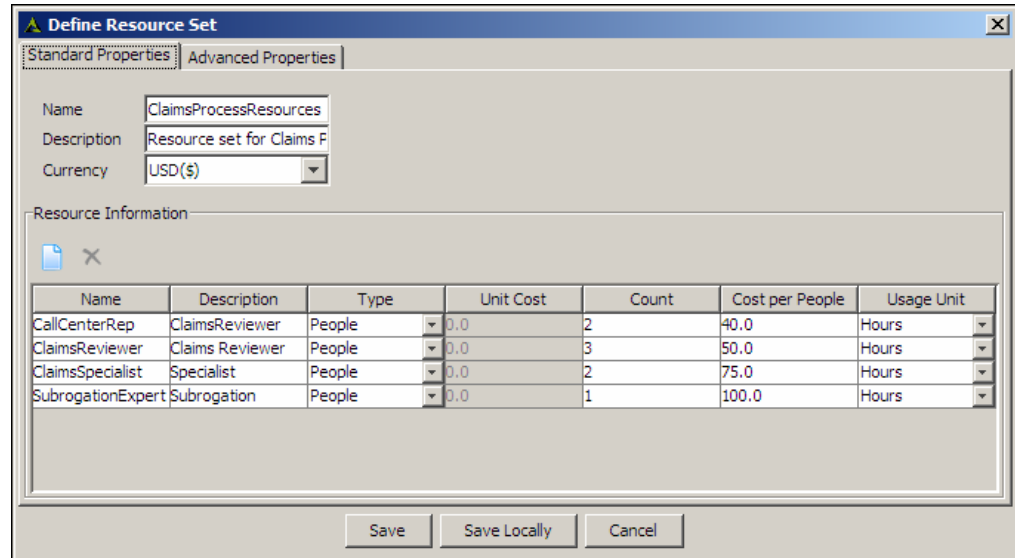

Figure 10.6: Claim Management Resource Set
5. Similarly, you can add more resources. There is no limit to the number of resources that can be added to a resource set. Figure 10.6, shows the resource set, used by Claim Management Process Model.